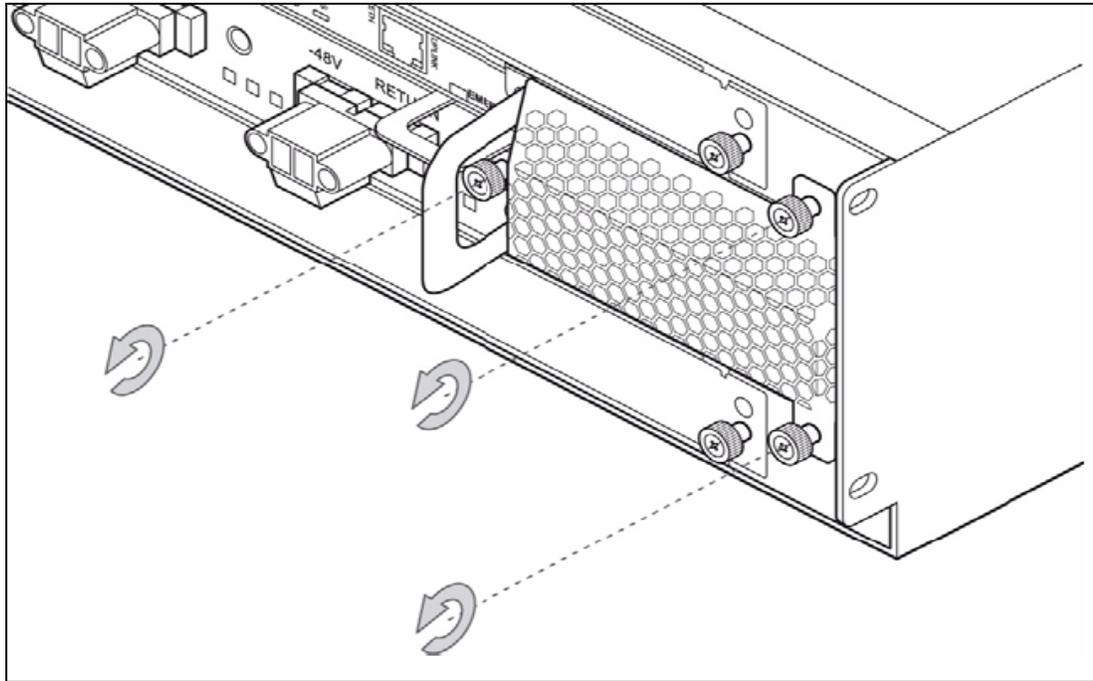

Figure 5.5 - Fan Tray Mounting Screws (Rear)
3. Loosen the three mounting screws of the tray (see Figure 5.5).